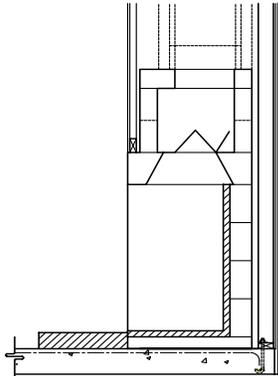

FIGURE 42
1. Slab on grade: standard residential, minimum four inch (4") thick, 2500 psi concrete foundation on properly compacted fill. This type foundation can support Isokern installations up to thirty feet (30')* overall height without additional structural support. (brick ledge installations not included) (Figure 42)